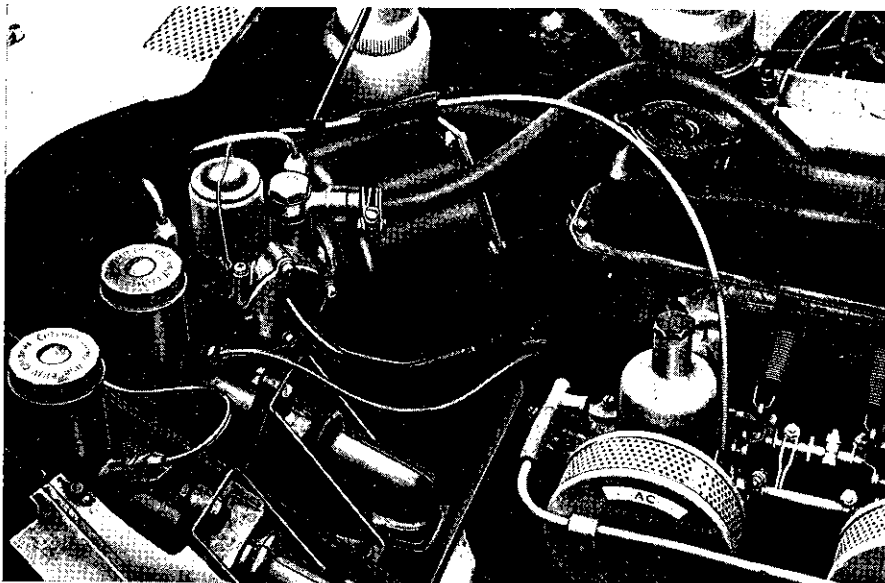

Fig. 27. Power stop installation
5. Connect the hydraulic pipes as shown on Fig. 27.